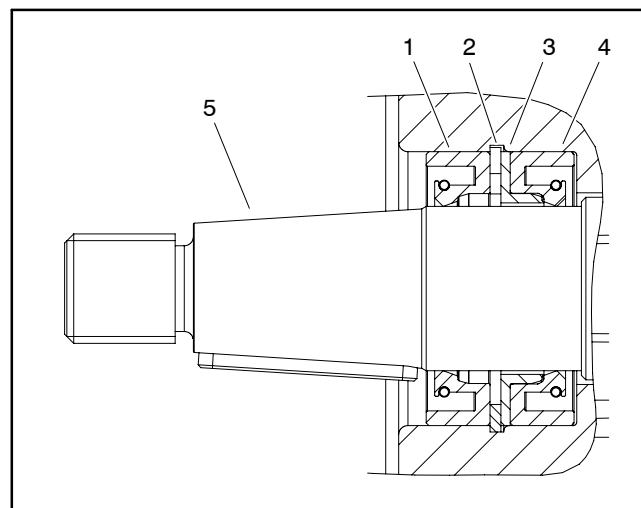

Figure 44.3
10. Carefully remove dust seal, retaining ring, flange washer and shaft seal from the front flange (Fig. 44.3). Discard seals.
2. Install new seals into front flange (Fig. 44.3):